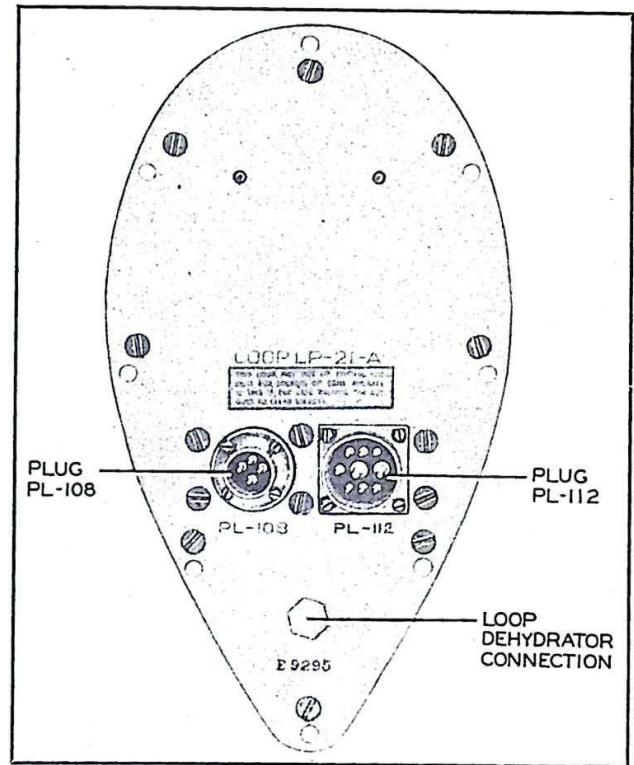

Figure 2-2. Loop LP-21-A, LP-21-AM or LP-21-LM
(b) Eight 7/32-inch holes in the mounting base provide for No. 10 fillister head screws which are used to mount the loop securely. (See fig. 2-2.) In locating the mounting holes to match the eight holes in the base, the fore-and-aft holes must be exactly in line (or within ± 0.25 degree) with the center line of the fuselage. To facilitate this alignment, reference lines are scribed on the edge of the loop mounting base. The broad nose of the loop housing must face forward.
c. Cord CD-365, Cord CD-365-A, Cord CD-365-B, Cord CG-42/ARN or Cord CG-95/ARN (use the one most convenient for the installation) connects Radio Compass Unit ★R-5/ARN-7 and the loop through its terminal plug, Plug PL-108. Do not change the length of this cord. If the cord is too long, coil the extra length wherever convenient. If it is too short, request a longer cord. (See fig. 2-2.)
The proper connections for any loop and non-directional antenna installation are shown in the above table. (See fig. 2-2.)